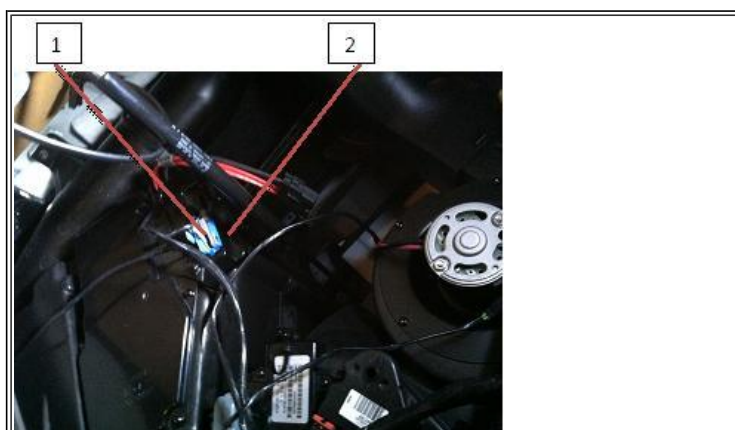

Figure 8: Control Center Assembly Harness 32-Pin Connector.
21. Disconnect control center assembly harness 32-pin connector (Figure 8, Item 1) from compressor controller (Figure 8, Item 2).
23. Connect control center assembly harness 32-pin connector (Figure 8, Item 1) to compressor controller (Figure 8, Item 2).